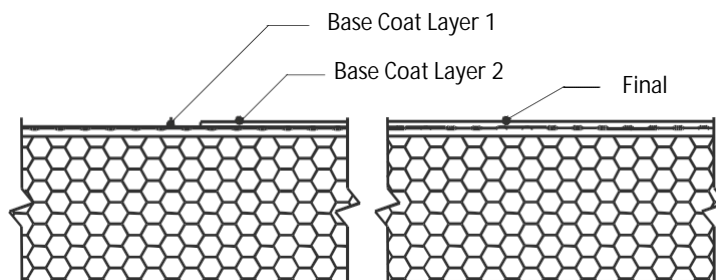

Fig. 22
- 3) Allow the base coat mixture to take up until firm to the touch. Trowel a second tight coat of the base coat mixture over the first coat to fully cover the reinforcing mesh - Figure 22. The result should be such that the reinforcing mesh is approximately centered within the base coat thickness. Do not allow the first pass to completely dry prior to the second pass application or an excessive amount of base coat mixture will be necessary to fully coat the wall surface.